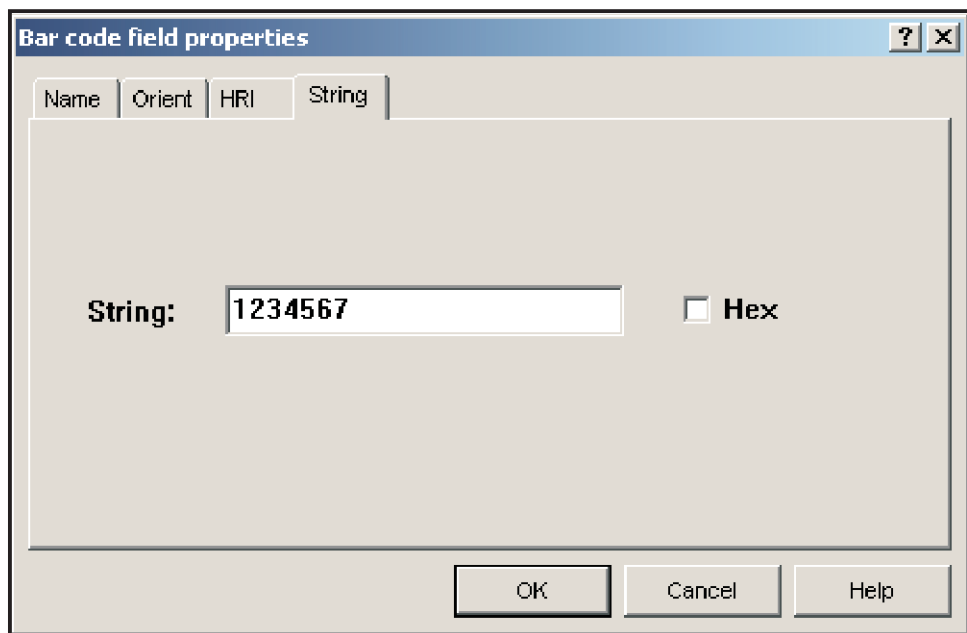

Figure 44. Specifying the Bar Code Properties
3. The **Bar code field properties** window opens, shown in Figure 44. Use the pages on this window to specify the properties for this field. You can specify the string to encode (1234567 is specified in Figure 44), whether you want HRI and where you want it placed, and the bar code's orientation. Click **OK**.